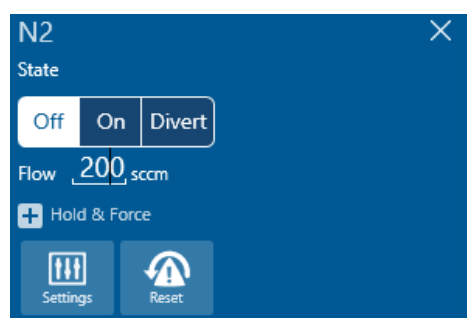
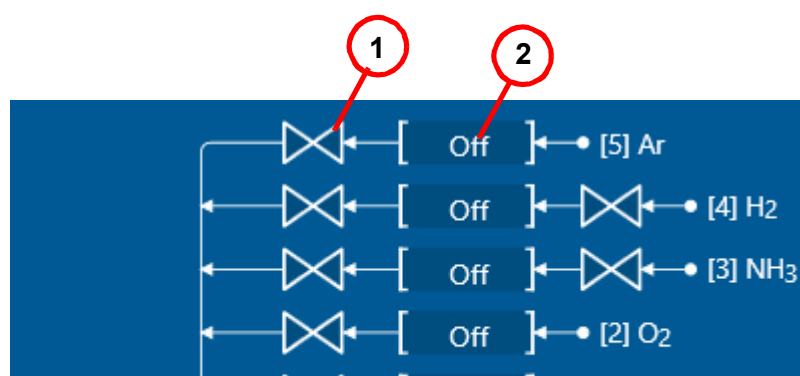

Figure 5-8 Typical MFC panel
Figure 5-9 Gas valves
- 4 Click on the MFC for the gas line to be evacuated (see item 2 in Figure 5-9). This opens the panel for the MFC (see Figure 5-8).
- 6 Open the individual gas valve for the line to be evacuated (item 1 in Figure 5-9). Check that all other valves are closed.